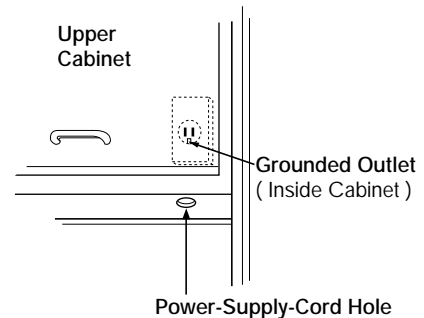

Figure 4 Detail
- BE SURE you have enough space. See Figure 4 below for minimum vertical and horizontal clearance.
1. Locate the grounded electric outlet for this oven in the cabinet above the oven, as shown in Figure 4 Detail.
2. You will cut the power-supply-cord hole (shown in Figure 4 Detail) later when you prepare the wall and upper cabinet in Step 4.